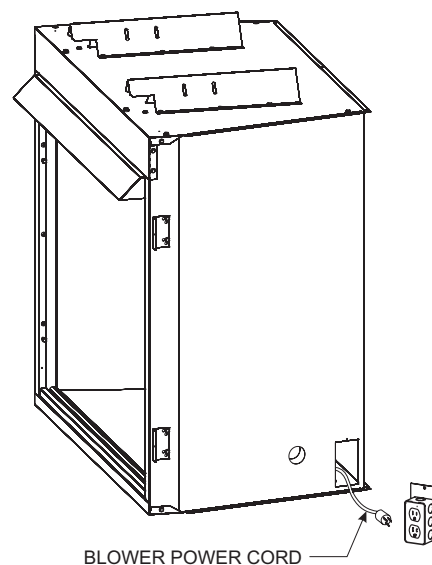

Figure 30
11. To complete the installation, plug the power cord into the junction box receptacle at the right rear corner of the firebox outer wrap. **See Figure 30.**